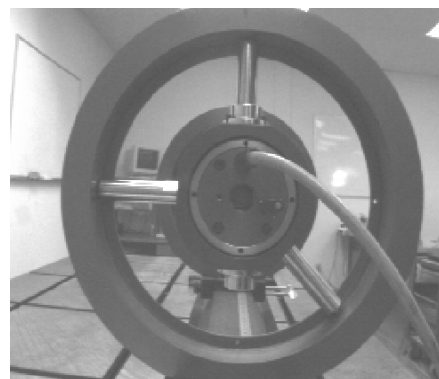

Figure 17 — Bore Target in the INverted position (target cable trailing downward from the top of the target).
14. INvert the T-218/T-225L and take another reading (see Figure 17). Write down the **V** and **H** readings (INverted).
2. Invert the target and take another reading (see Figure 17). Write down the **V** and **H** Readings (INverted).